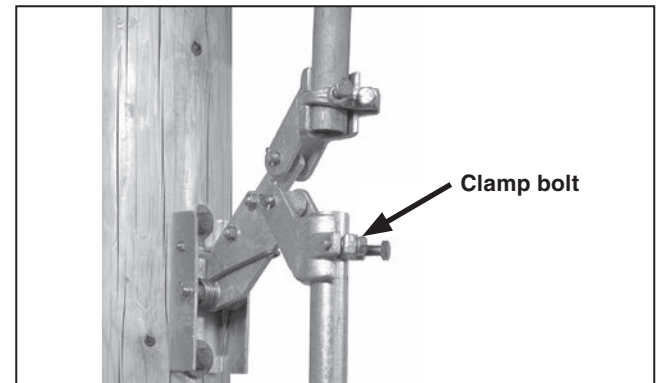

Figure 20. Torquing the clamp bolt at the lowest rod guide (or interphase drive lever) coupling.
STEP 19. If there is still slack, repeat the procedure in Step 15 on page 16 but move the operating handle more than 20 degrees in the opening direction before torquing the clamp bolt on the lowest rod guide (or interphase drive lever) coupling. See Figure 20.